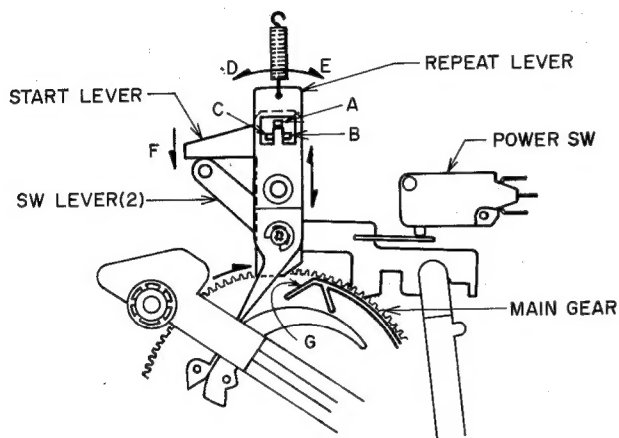

Fig. 5-2
- 1) When the Start (Cut) button is pressed, the CS ROD starts moving the repeat lever, the start lever, the SW lever (2) and the clutch lever, and the start (cut) operation begins.
- 2) When the button is pressed, the start lever is released from the repeat lever, pushes the SW lever (2), turns the power SW on and at the same time the clutch plate is pushed by the clutch lever and the rotation of the spindle assy is transmitted to the main gear and thus the main gear starts rotating.
- 3) When on start, the repeat lever starts moving in the direction D shown in Fig. 5-2. It pushes the change lever on the main gear, and the rotate plate moves along the starting groove, lifts the tone arm up and starts to play the record.
- 4) When on cut, the repeat lever moves in the direction E shown in Fig. 5-2. The change lever is not pushed and the cut operation is performed along the cut groove which is different from 3).
- 1) When on start (when the start button is pressed,) the repeat lever moves from position A to position B as in Fig. 5-2 and the start lever moves in the direction F shown in Fig. 5-2. Also when on cut, the repeat lever moves from position A to position C and the start lever moves in the same direction F as when on start.
- 2) Both when on start and on cut, the main gear rotates once, but make sure that after one rotation, repeat lever is back in position A, otherwise the start and cut operation will repeat. If there is too much play on the repeat lever or the main gear because of a missing washer, the repeat lever does not touch the G side (refer to Fig. 5-2) of the main gear at the end of the rotation, so the repeat lever does not go back to its original position A in Fig. 5-2.